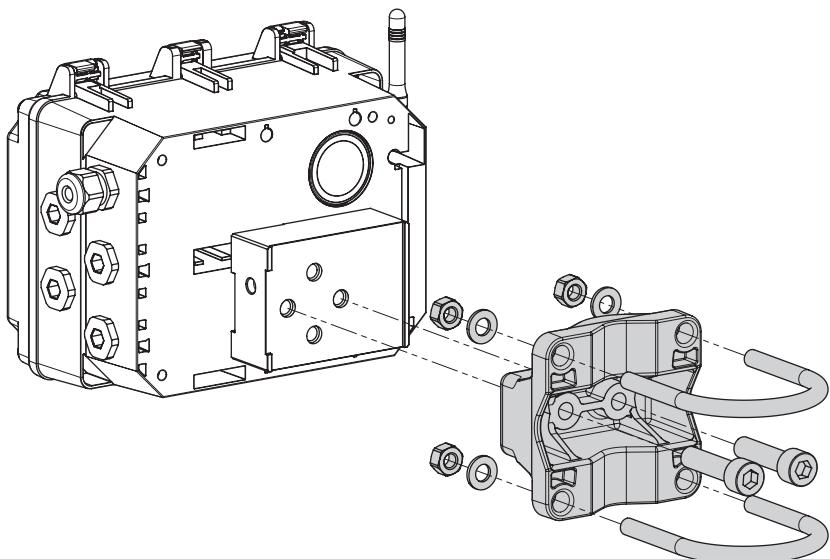

Fig. 5-4: Kit 1402-1910 for pipe mounting
- Kit for pipe mounting as accessory (see Fig. 5-4)